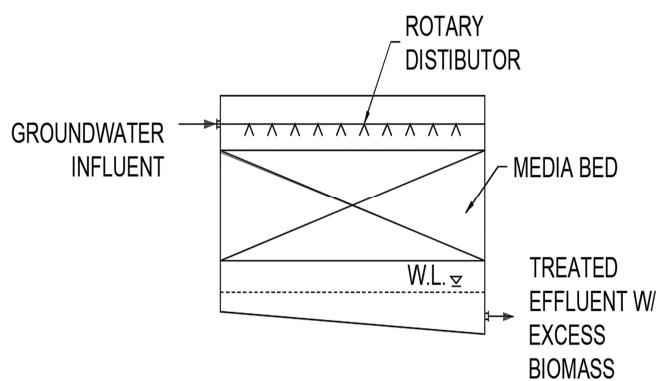

Figure 4. Simplified schematic of a trickling filter bioreactor (biotrickling filter).
- **Trickling media:** Trickling media-style bioreactors are designed to distribute the wastewater stream in a thin film over the medium beds and biomass. The wastewater is sequentially distributed over a discrete portion of the medium, not the entire bed, as a means to control excess biomass (because the medium is not submerged, gravity promotes sloughing of the thickened biofilm). The COCs transfer into the biofilm; the bacteria degrade the organics; and the waste by-products (carbon dioxide and water) transfer back to the water film. Oxygen transfers from the atmosphere through the water film and to the biofilm. One important advantage of trickling media systems is that oxygen can be supplied at lower costs. The most common trickling media bioreactors are trickling filters (Figure 4) and rotating biological contactors.